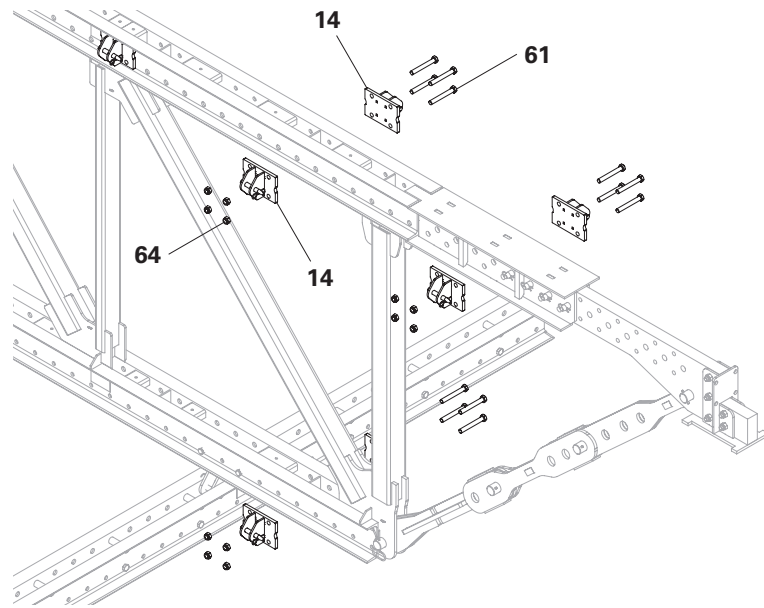

Fig. B3.04
- When connecting a single truss or truss package, a coupling connection (**14**) must be fitted on the rear side. Fit this together with the coupling connection (**14**) of the front side. (Fig. B3.04)